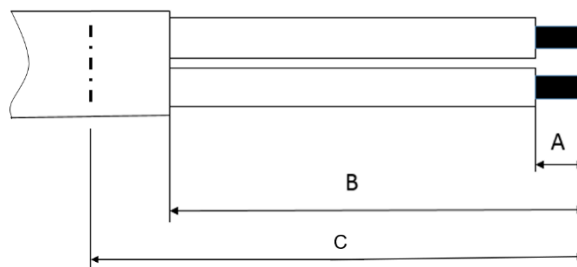
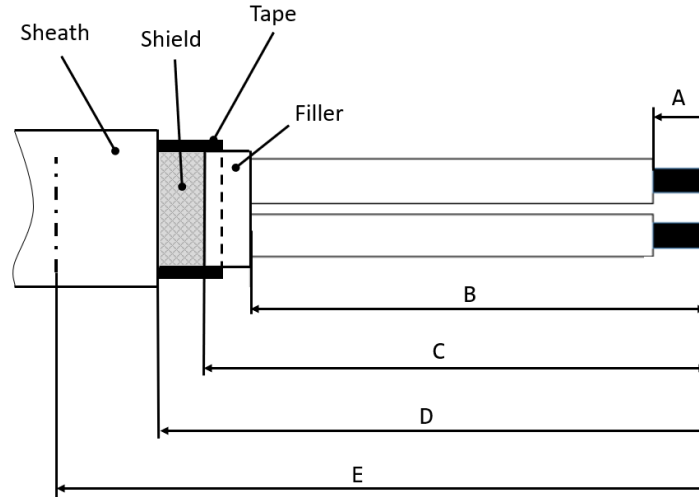

Figure 15
Figure 16
Remove outer isolation, shield and filler of AC-multicore-cable acc. figure 15.
**Alternative** to prepare cable according step 2 figure 15, is it also possible to prepare cable similar figure 16. In this case it is necessary to protect complete overlapping shield braid with tape (e.g. Certoplast 9mm). A marking on outer isolation in a distance "E" (or in an offset to "E") to the cut off position is recommended to ensure the proper position of the outer isolation in the FAMILY SEAL AC [POS.6].